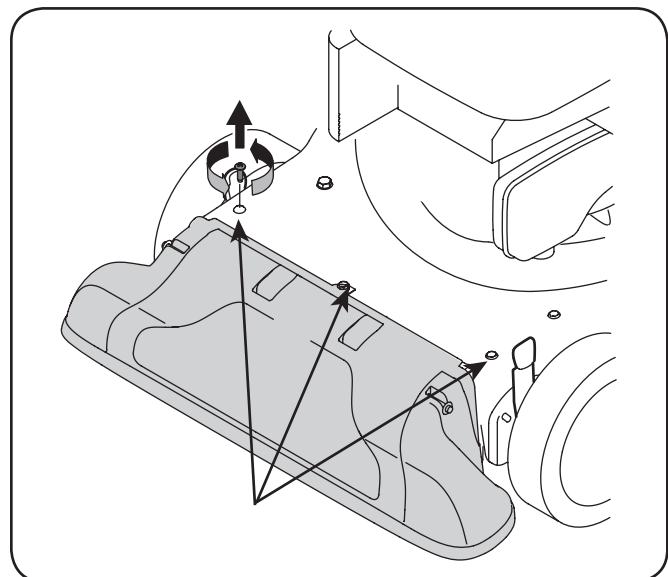

Figure 7-3
6. Remove the three screws on the upper housing that secure the nozzle cover. See Figure 7-3.